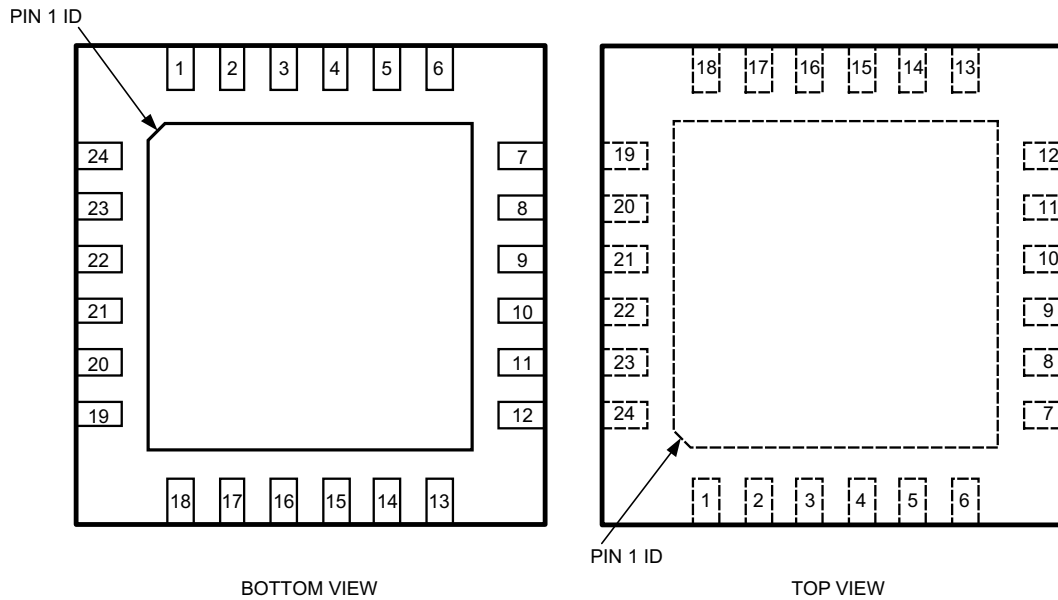

**Figure 1. Typical Application Circuit**
Limits in standard type face are for TA = 25°C. Limits in **boldface type** apply over the full operating ambient temperature range (-30°C ≤ TA ≤ +85°C). Unless otherwise noted, specifications apply to **Figure 1** with: VIN = 3.6V, CIN = 10 μF, COUT = 4.7μF and L1 = 2.2 μH. (3)
Limits in standard type face are for  $T_A = 25^\circ\text{C}$ . Limits in **boldface type** apply over the full operating ambient temperature range ( $-30^\circ\text{C} \leq T_A \leq +85^\circ\text{C}$ ). Unless otherwise noted, specifications apply to Figure 1 with:  $V_{IN} = 3.6\text{V}$ ,  $C_{IN} = 10\ \mu\text{F}$ ,  $C_{OUT} = 4.7\ \mu\text{F}$  and  $L1 = 2.2\ \mu\text{H}$ .(3)